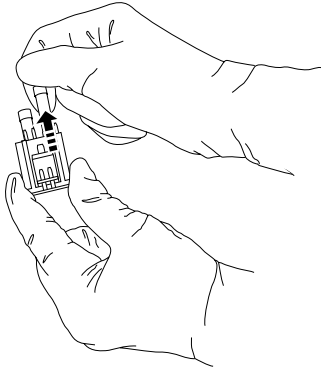

Figure 5-7 Removing fuses
- 6 Pull out the fuse drawer, remove the fuses, and examine them (Figure 5-7).